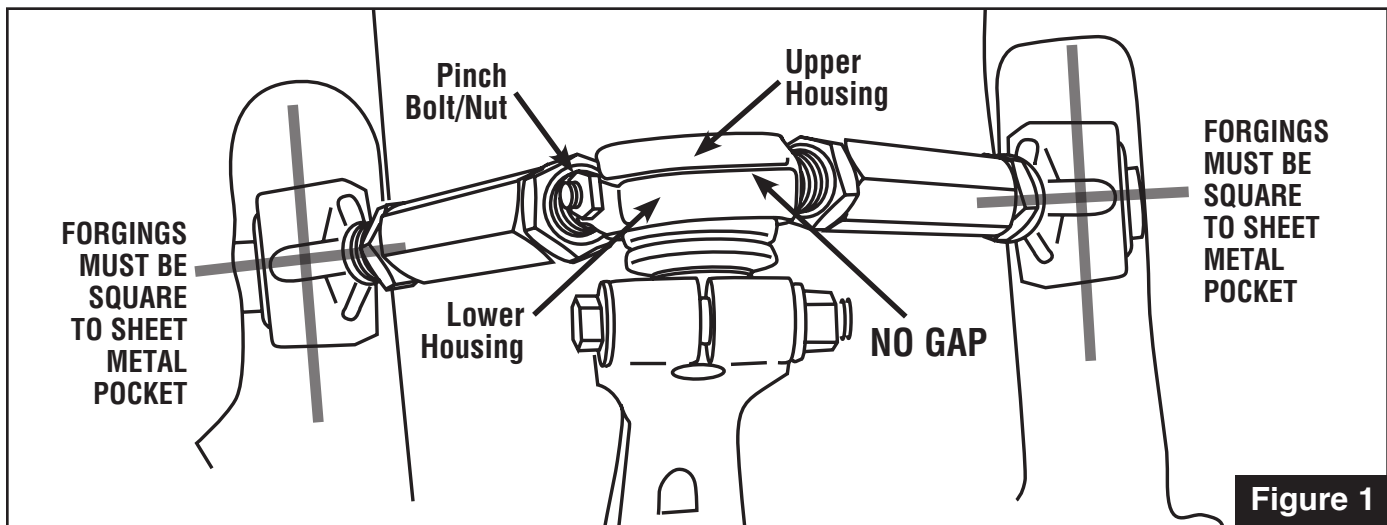

Figure 1
6. Install adjustable control arm into vehicle with inboard forgings aligned square to bushing pockets as shown in **Figure 1**.